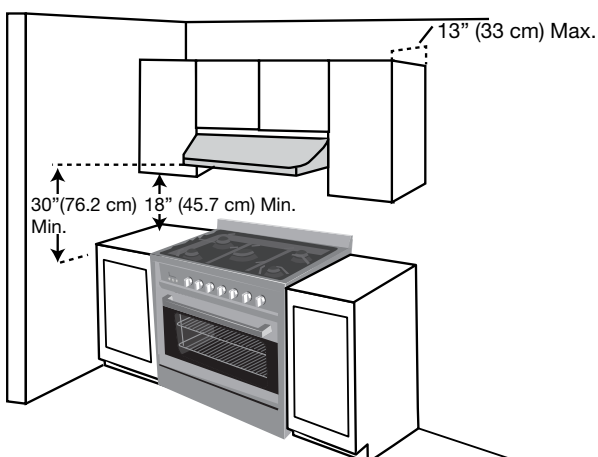

Figure 1
- Working areas adjacent to the range should have 18" minimum clearance between countertop and cabinet bottom. (See Figure 1)